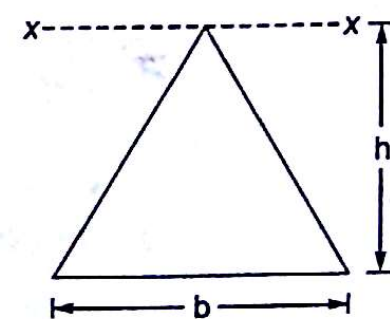

Fig. 8.24
8.10 What is the moment of inertia of the triangle with respect to xx axis as shown in figure 8.24